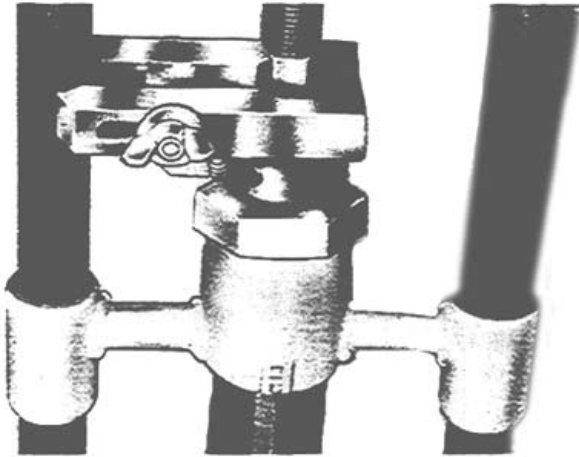

FIGURE 20
1. Loosen wing nut and shift clamp bar from contact with squared section of operating tube screw to contact with guide post. **Figure 20**. Tighten wing nut.